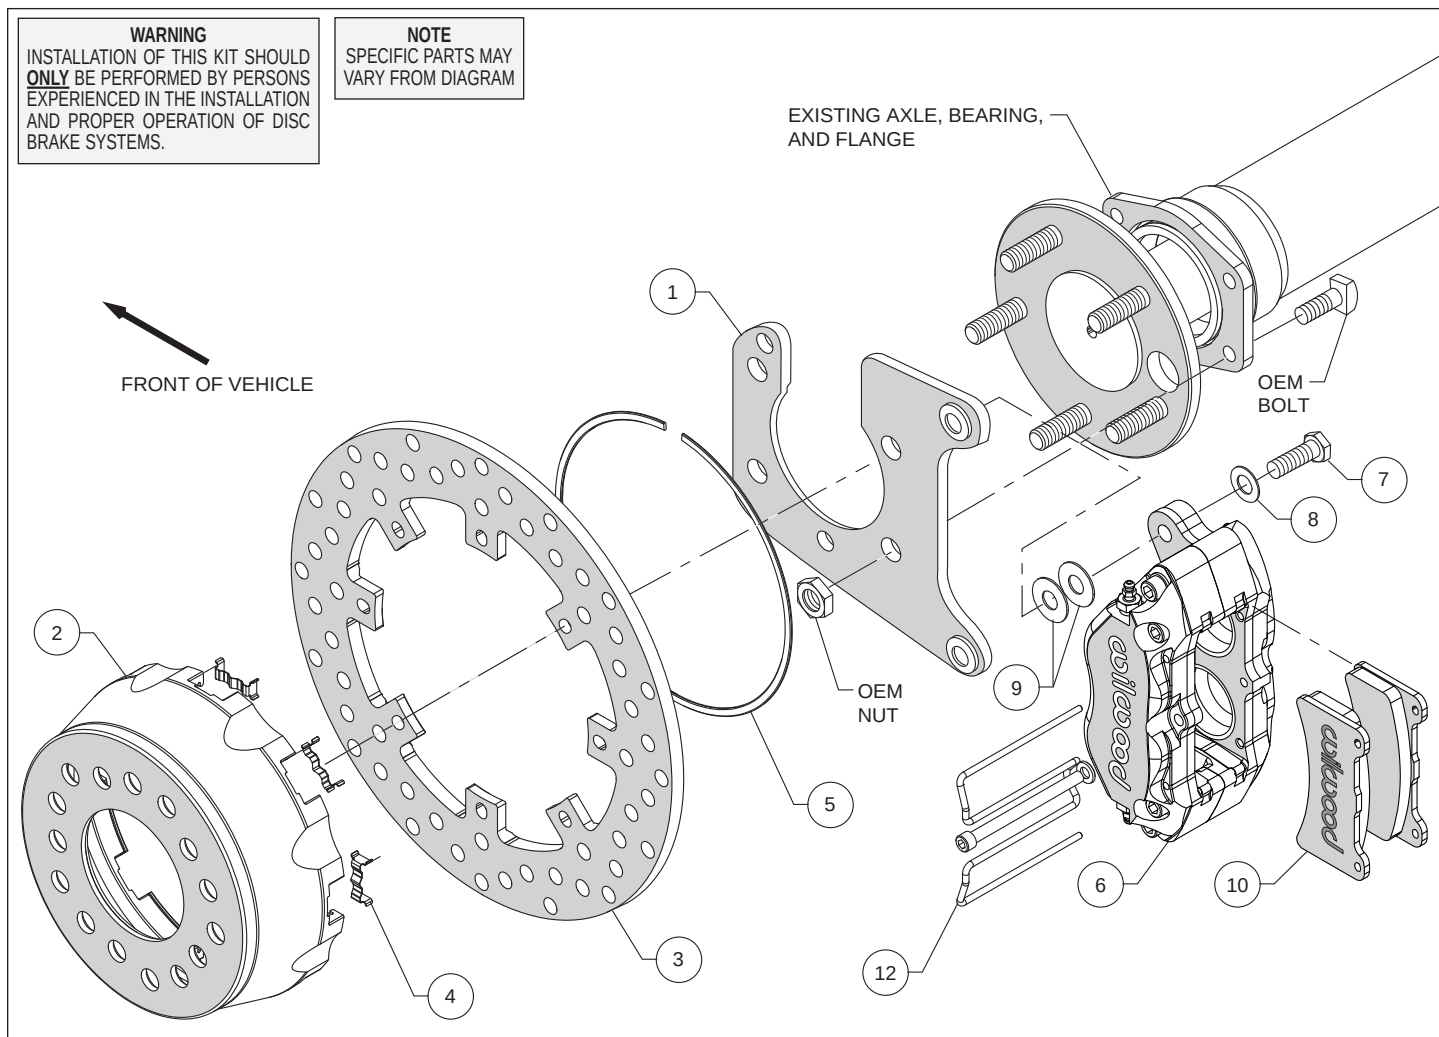
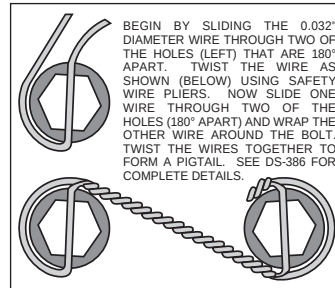
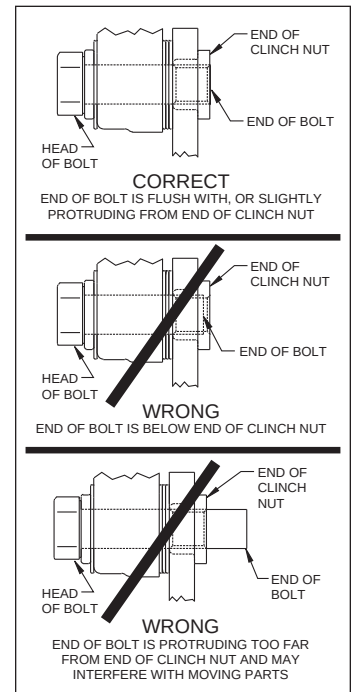

Figure 1. Typical Installation Configuration
Figure 4. Safety Wire Diagram
Figure 5. Clinch Nut Engagement Diagram
Assembly Instructions (numbers in parenthesis refer to the parts list and Figure 1 on the preceding pages): **CAUTION:** All mounting bolts must fully engage clinch nuts. Be sure to check that all bolts are either flush or protruding through flanged side of clinch nut after shimming, Figure 5.
- Install the caliper mounting bracket (1), with the slot for the axle pointing upward, to the housing flange using the OEM bolts and nuts, as shown in Figure 1 and Photo 1. Ensure that the heads of the clinch nuts are facing outboard, Photo 1. Apply red *Loctite*® 271 to the OEM bolt threads and torque to OEM specifications.
- Insert the dynamic mount wear clips (4) into the slots in the hat (2) making sure the tabs snap in place, Photo 2. Orient the rotor (3) as shown in Figure 1 and Photo 3, with the flush mount tab side facing the hat. Attach the rotor to the hat using snap ring (5) by pushing down on the rotor and installing the ring into the groove in the hat, as shown in Photo 4. Ensure that the ring is fully engaged in the groove.
- NOTE:** Please reference the caution statement at the beginning of the assembly instructions. Mount caliper (6) onto the mounting bracket (1) using bolts (7) and washers (8), as shown in Figure 1. Initially place two .035" thick shims (9) on each bolt between the caliper and the bracket, Photo 5. Temporarily tighten the mounting bolts and view the rotor (3) through the top opening of the caliper. The rotor should be centered in the caliper, Photo 6. If not, adjust the caliper by adding or subtracting shims between the bracket and the caliper. Always use the same amount of shims on each of the two mounting bolts. **NOTE:** The end of each bolt must be flush with or slightly protruding from the head of the clinch nut. If necessary, place spare shims between washer and caliper mounting ear to achieve the proper clinch nut engagement, as shown in Figure 5. Once the caliper alignment and clinch nut engagement are correct, remove the bolts one at a time, apply red *Loctite*® 271 to the threads, and torque to 40 ft-lb. For an added measure of security, the bolts may be safety wired using standard 0.032 inch diameter stainless steel safety wire as shown in Figure 4. Please refer to Wilwood's data sheet DS-386 (available at www.wilwood.com/Pdf/DataSheets/ds386.pdf) for complete safety wire installation instructions.